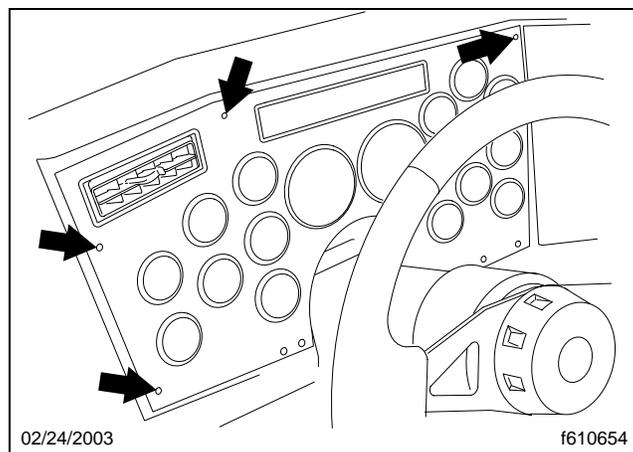

Fig. 1, Main Instrument Dash Panel Fasteners
5. Open the main instrument dash panel by removing the four fasteners. See **Fig. 1**. Tip the instrument panel forward to access the rear of the gauges.